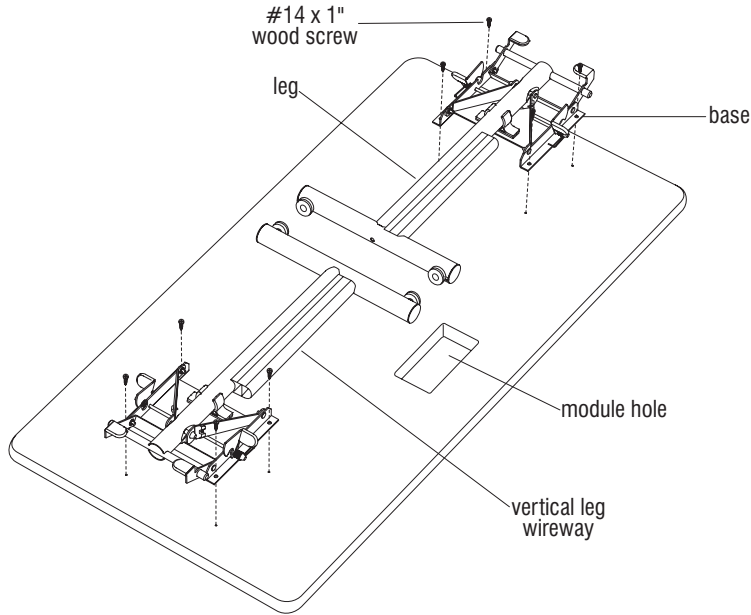

Figure 1
Note: The vertical leg wireways must face the side of the table with the module hole and the folded legs of the table bases must be positioned to fold toward the center of the table (Figure 1).
3. Secure each base to the table with four #14 x 1" screws provided, not to exceed 60 in/lbs of torque (Figure 1).